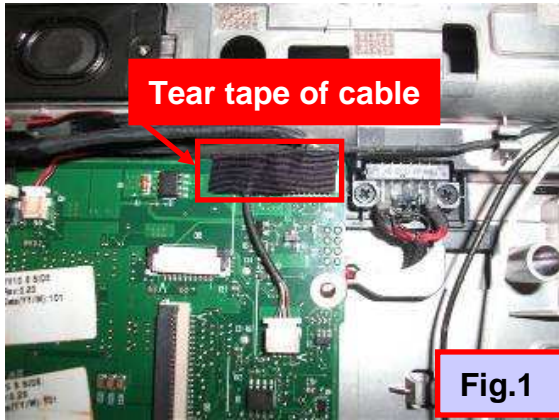

Fig.1
1. Disassemble TPCB (Fig.1)
1. Tear the tape of acetic acid from MIC cable (Fig.1)